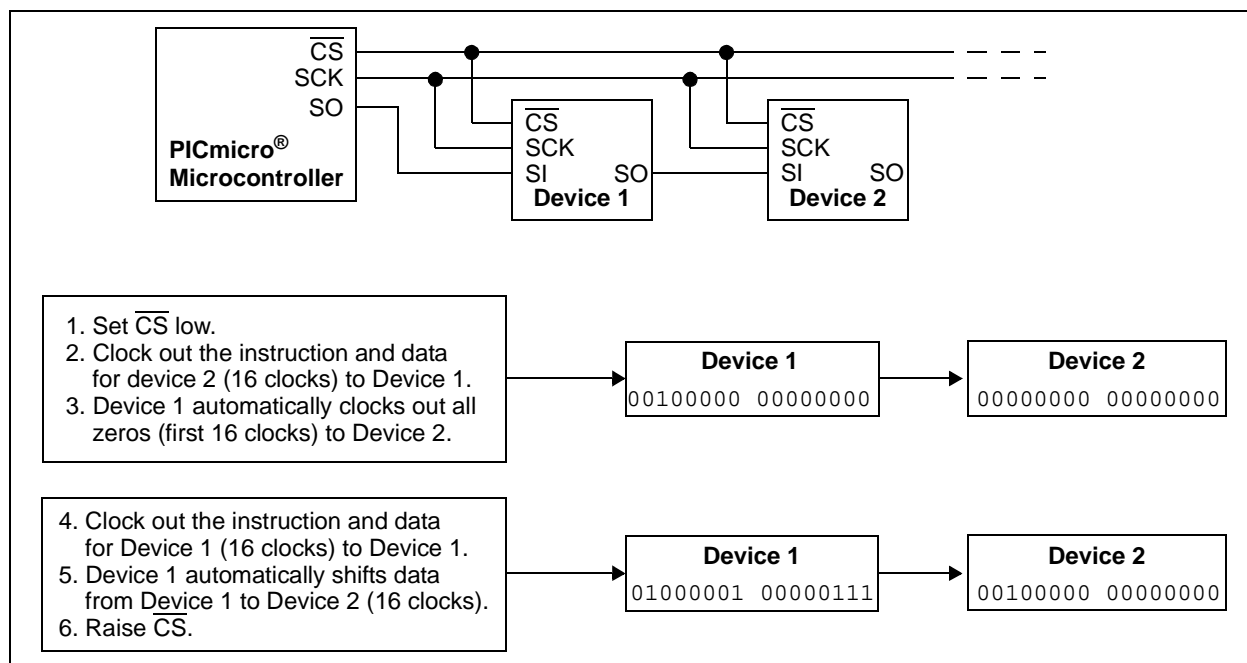
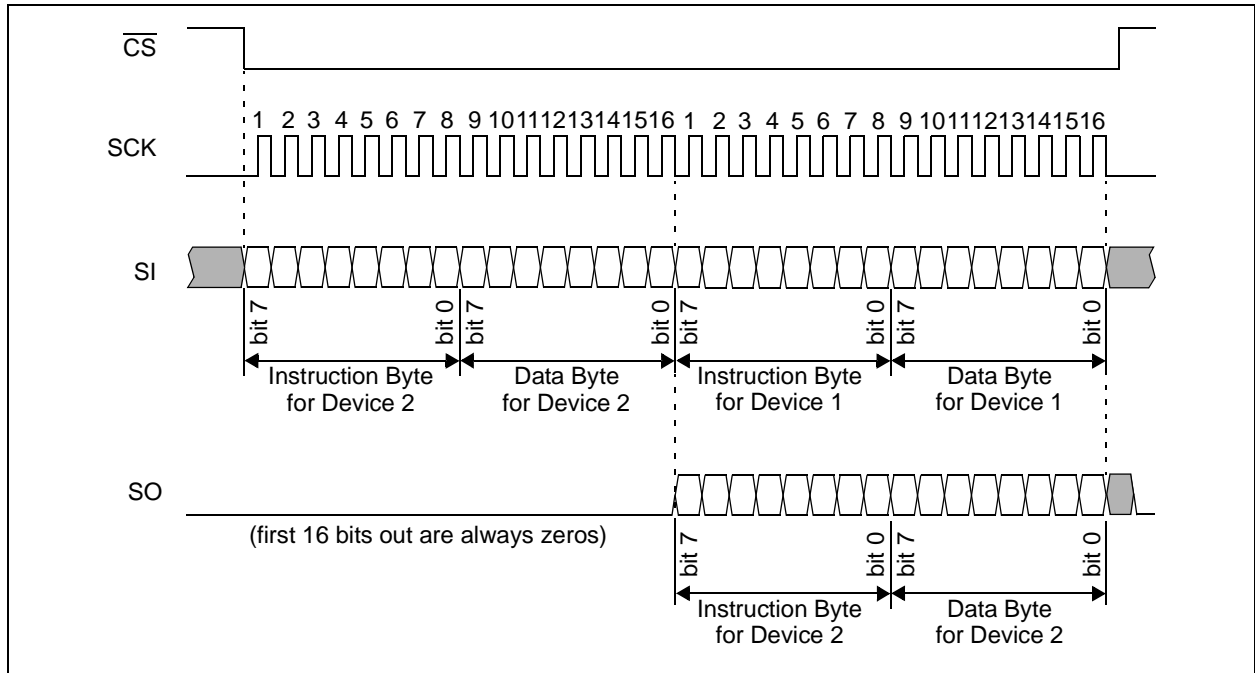
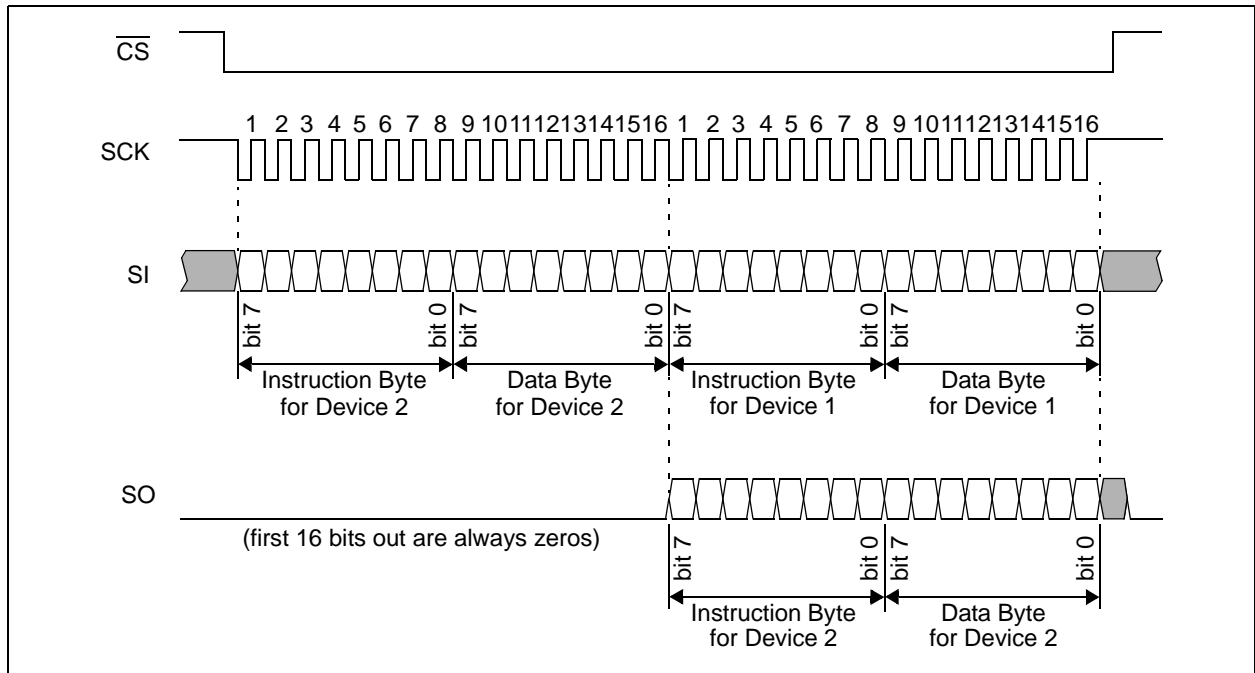

FIGURE 5-3: Daisy-Chain Configuration.
FIGURE 5-4: Serial Bus Sequence for Daisy-Chain Configuration; SPI™ 0,0 Mode.
FIGURE 5-5: Serial Bus Sequence for Daisy-Chain Configuration; SPI™ 1,1 Mode.
Multiple MCP6S91/2/3 devices can be connected in a daisy-chain configuration by connecting the SO pin from one device to the SI pin on the next device and using common SCK and \overline{CS} lines (Figure 5-3). This approach reduces PCB layout complexity and uses fewer PICmicro® microcontroller I/O pins.
The example in Figure 5-3 shows a daisy-chain configuration with two devices, although any number of devices can be configured this way. The MCP6S91 and MCP6S92 can only be used at the far end of the daisy-chain, because they do not have a serial data out (SO) pin. As shown in Figure 5-4 and Figure 5-5, both SI and SO data are sent in 16-bit (2 byte) words. These devices abort any command that is not a multiple of 16 bits.